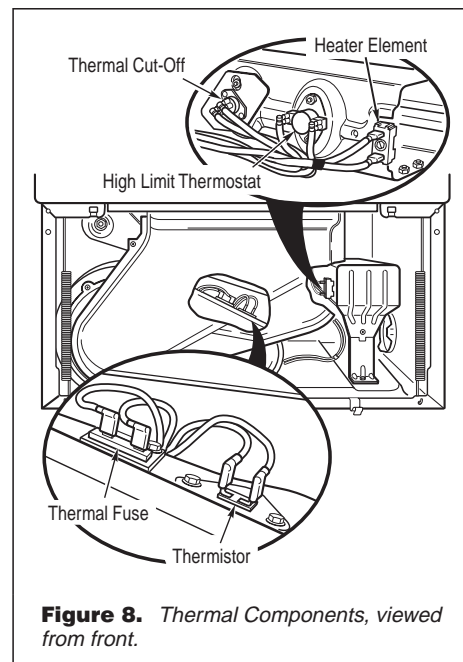

Figure 8. Thermal Components, viewed from front.
2. Remove the toe panel to access the thermal components. See figure 11, page 7. Locate the components using figure 8.
- Check wire connections at the machine control electronics and thermistor. See Accessing the Machine Control Electronics, page 7, and figure 8 for thermistor location.
- ➔ If wire connections are good, remove the two wires from the thermistor and replace the thermistor. See figure 8.
2. Access the thermal fuse by first removing the toe panel. See Removing the Toe Panel, page 7, and figure 8 for thermal fuse location.
3. Using an ohmmeter, check the continuity across the thermal cut-off. See figure 8 for location.